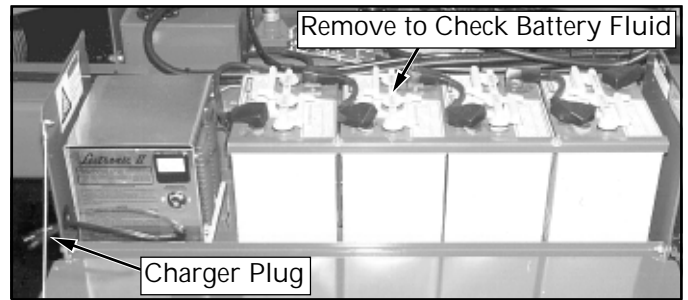

Figure 4: Chassis Power Module, Left Side
Check battery fluid level daily (Figure 4), especially if work platform is being used in a warm, dry climate.
1. Check battery fluid level (Figure 4). If electrolyte level is lower than 10 mm ( $\frac{3}{8}$  in.) above plates add distilled water only.
3. Connect extension cord (1.5 mm2 (12 gauge) conductor minimum and 15 m (50 ft.) in length maximum) to charger plug located at the front side of the left chassis module (Figure 4). Connect extension cord to properly grounded outlet of proper voltage and frequency.